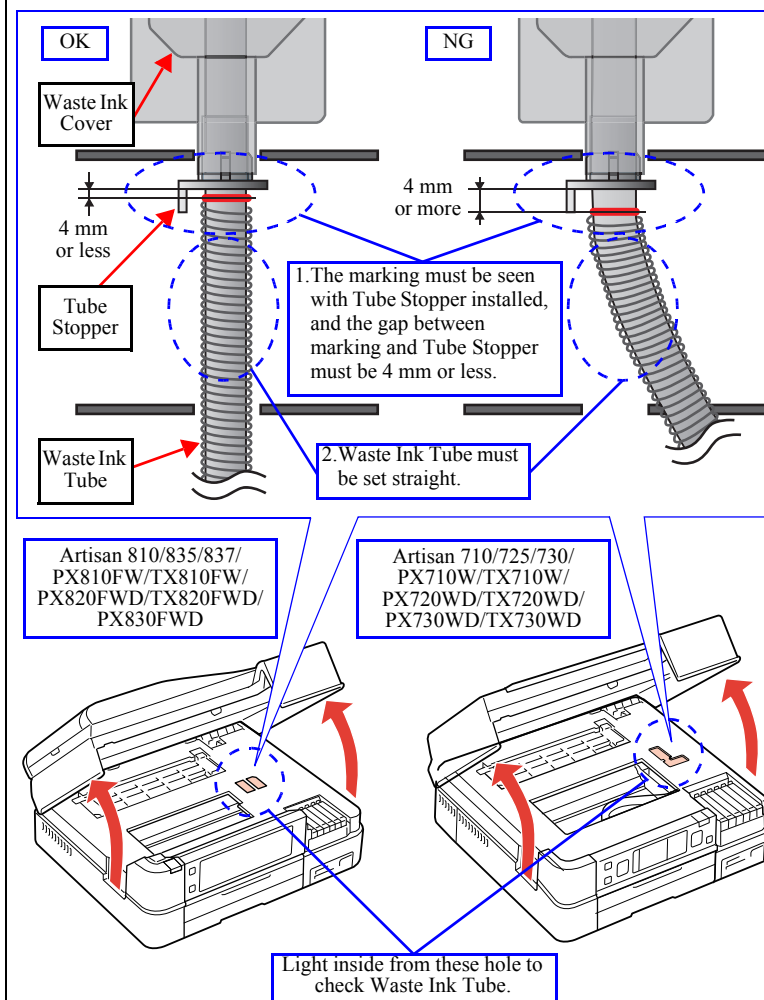

Figure 4-108. Checking the Waste Ink Tube
6. While lighting inside from the hole of the Upper Housing with a penlight or the like, check the Waste Ink Tube for the two points shown in Fig. 4-108. Install the Waste Ink Tray Assy again if it is not installed correctly.